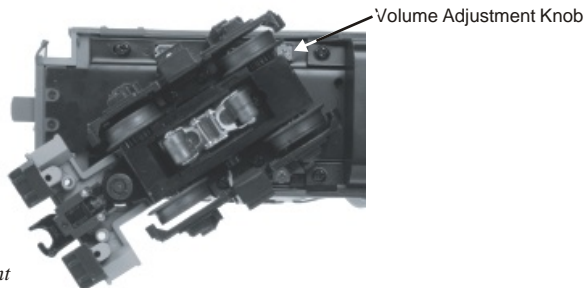

Figure 4: Volume Adjustment
**Volume Control** – To adjust the volume of all sounds made by this engine, turn the master volume control knob located under the engine clockwise to increase the volume and counterclockwise to decrease the volume (see Fig. 4 ).